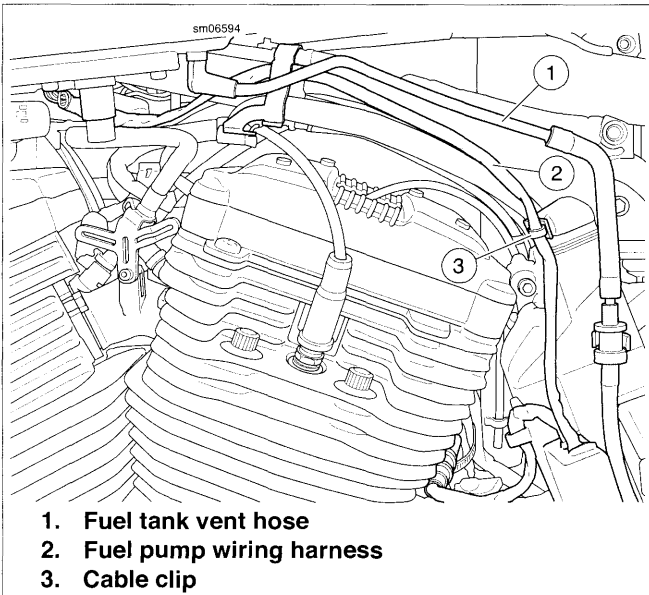
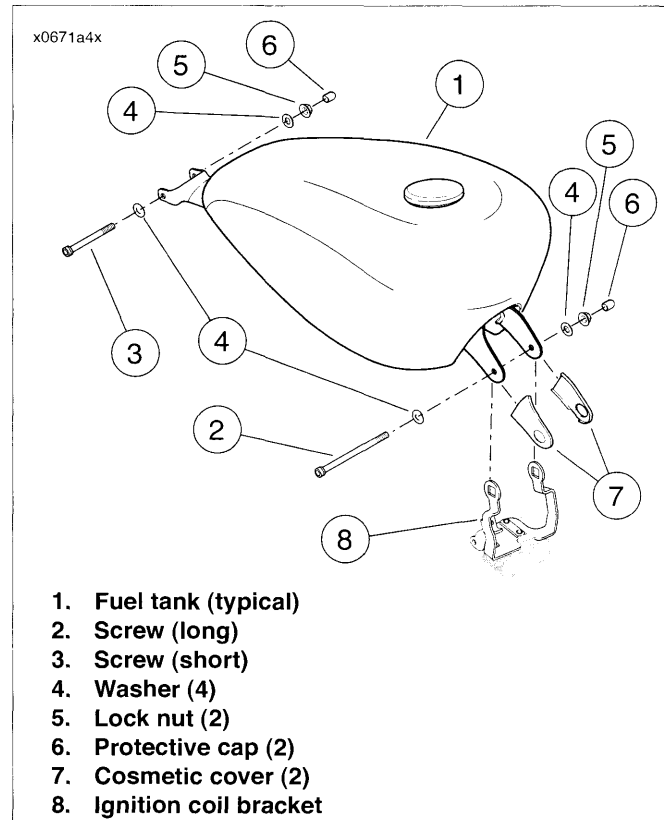
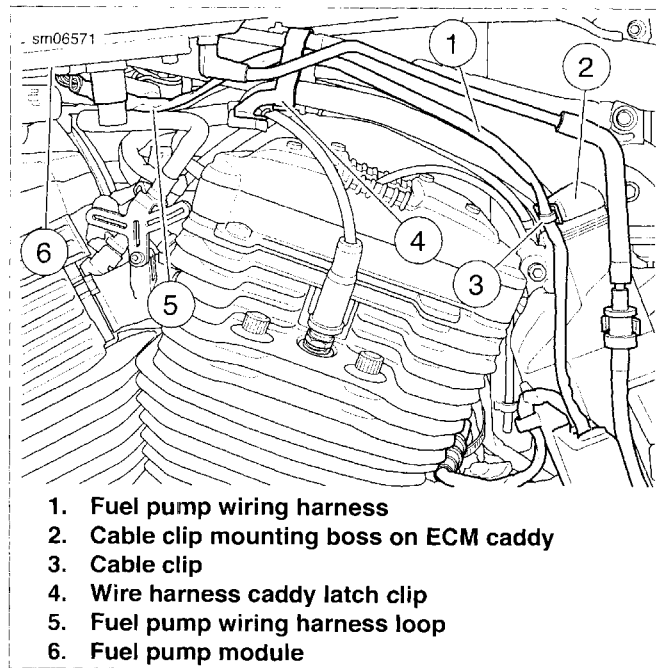

Figure 4-7. Fuel Tank Vent Hose
Figure 4-8. Fuel Tank Mounting (Typical)
Figure 4-10. Fuel Pump Wiring Harness Routing
4. See Figure 4-7. Remove vent hose from fuel tank vent nipple. Remove cable clip (3) securing fuel pump wiring harness (2) to mounting boss on H-bracket.
- See Figure 4-8. XL models with the 3.30 gal (12.49 L) fuel tank require protective tape in location shown.
2. See Figure 4-8. Position fuel tank on motorcycle. Make certain that front fuel tank brackets are located outboard of ignition coil bracket (8).
3. Place washer (4) on long screw (2). Push screw through front fuel tank bracket, ignition coil bracket and frame, from right to left. Place second washer over screw and hand-start lock nut (5).
4. See Figure 4-10. Place a clean, soft cloth over front of fuel tank to keep tank from contacting top fork clamp and damaging paint. Lift up rear of fuel tank. Place fuel pump wiring harness (1) into clip on wire harness caddy latch clip on frame backbone tube. Make sure harness forms a loop (5) between caddy latch clip and fuel pump module (6) to avoid pinching harness between fuel tank and frame backbone tube.
5. Route fuel pump wiring harness down along left side of H-bracket. Secure with cable clip (3). Push clip into hole in mounting boss (2) on H-bracket.
6. Lower rear of fuel tank into position. See Figure 4-8. Place washer (4) on short screw (3). Push screw through rear fuel tank bracket and frame, from right to left. Place second washer over screw and hand-start lock nut (5).
7. Tighten both front and rear fuel tank mounting screws to 15-20 ft-lbs (20.4-27.1 Nm). Install protective caps (6) on screw ends.
8. See Figure 4-7. Install vent hose onto fuel tank vent nipple.
2. See Figure 4-7. Install vent hose onto vent nipple on fuel tank.